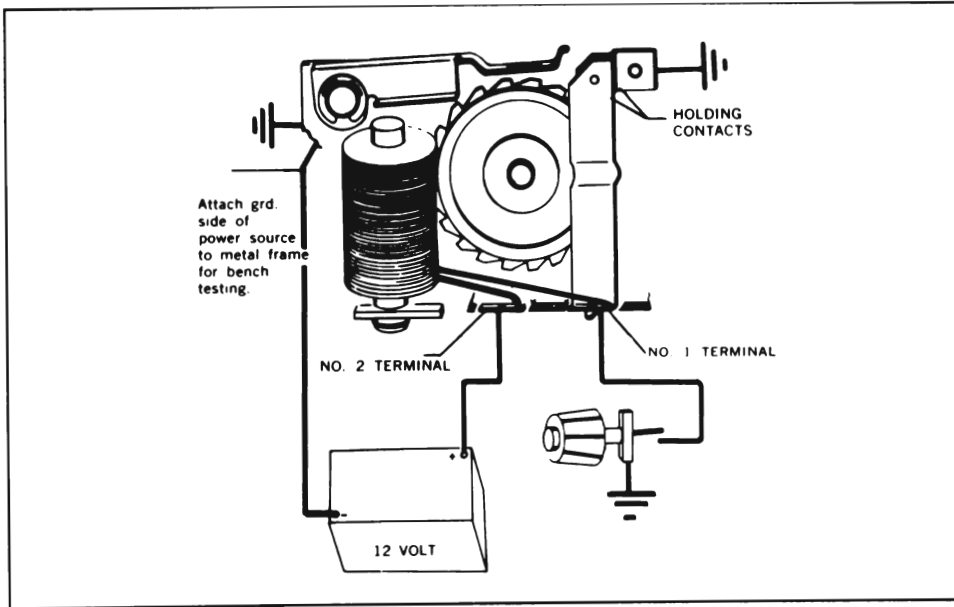

Figure 10-90—Washer Pump Wiring Diagram
Depressing the dash switch washer button closes the washer pump relay circuit to ground. (Refer to Figure 10-90). NOTE: If wiper was 'off' the wiper switch is mechanically turned to the 'on' position by the washer button.
1. Remove washer pump cover and connect 12 volt power supply to washer pump as shown in Figure 10-90. Connect jumper wire from terminal No. 1 to ground. Turn ratchet pawl to the position shown in Figure 10-90. Ratchet